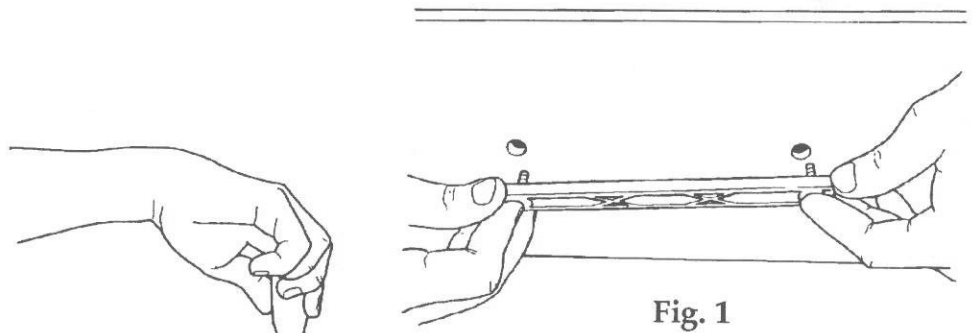

Fig. 1
1. Insert both tapered pins (3) into the slotted holes located at each end of the expansion bar (2). The two "ridges" on each pin fit into the slot.
2. Place the tapered pins (3) through the bottom of the table (1), as shown in Fig. 1.